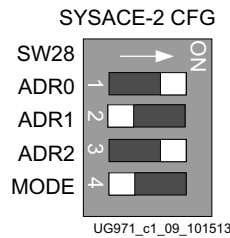

Figure 1-9: Configuration Address DIP Switch (SW8)
4. Select the GTH IBERT demonstration with the System ACE™ SD Controller SYSACE-2 CFG switch, SW8. The setting on this 4-bit DIP switch (Figure 1-9) selects the file used to configure the FPGA. A switch is in the ON position if set to the far right and in the OFF position if set to the far left. For the Quad 115 GTH IBERT demonstration, set ADR2 = ON, ADR1 = OFF, and ADR0 = ON. The MODE bit (switch position 4) is not used and can be set either ON or OFF.